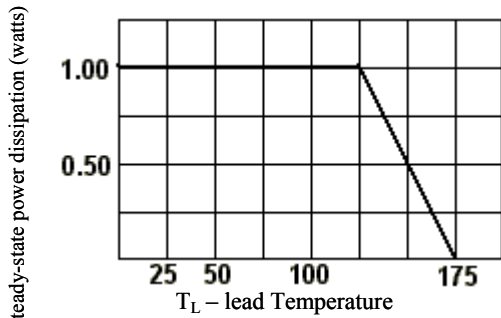

FIG. 3 Steady-state power derating curve
- DC Power Dissipation*: 1 Watt at $T_L = +25^\circ\text{C}$ 3/8" (10 mm) from body (see derating in Fig 3)